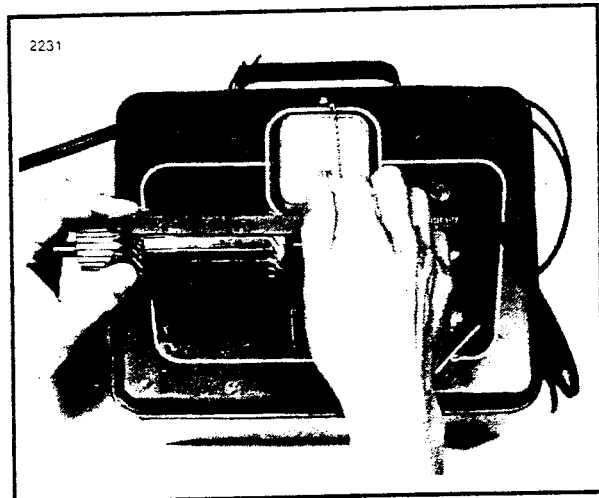

Figure 4-34. Shorted Armature Test Using Growler
3. See Figure 4-34. Check for SHORTED ARMATURE with a growler. Place armature on growler. Hold a thin steel strip (hacksaw blade) against armature core and slowly turn armature. A shorted armature will cause the steel strip to vibrate and be attracted to the core. Shorted armatures should be replaced.